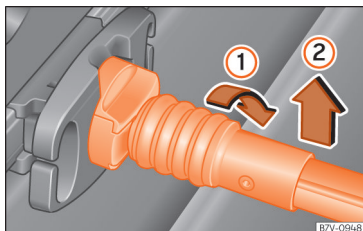

Fig. 148 Release the baggage net
- Rotate the attachment rod 90° to the right » » Fig. 148 ① until you can see the red mark on the rod. Pull the attachment rod upwards ②.